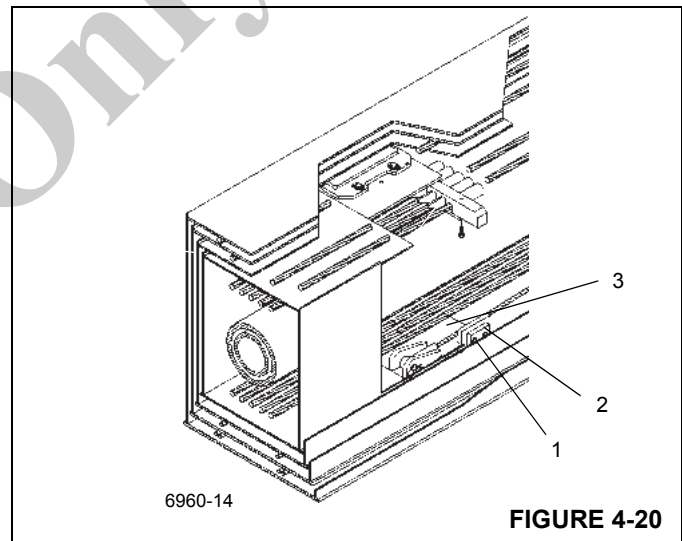

FIGURE 4-20
8. If necessary, remove the capscrews (1) securing each lower rear side wear pad (2) to the fly section (3) (Figure 4-20). Remove wear pads and shims. Note location of shims for installation.